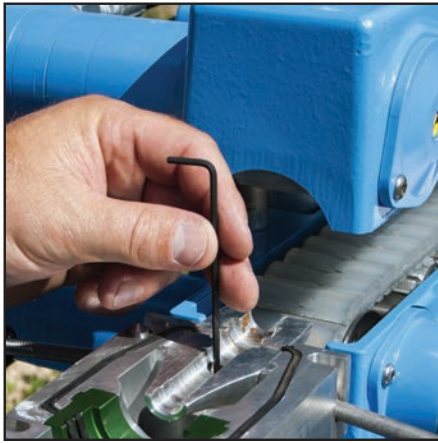

Figure 8. Install Venturi
4. Attach the correct size Venturi to fit the cable being installed (Figure 8).